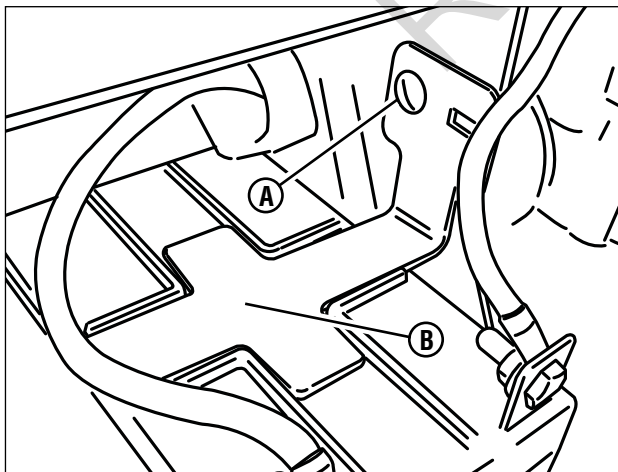

Figure 48: Battery holddown bracket
2. Remove the hardware (A, Figure 48) securing the battery holddown bracket (B), and remove the bracket.
3. Connect the black negative (-) cable (C) to the negative terminal (-) on the battery with the removed hardware.
5. Reinstall the positive terminal cover (B) over the positive terminal.
6. Reinstall the battery holddown bracket (B, Figure 48), securing with the removed hardware (A).